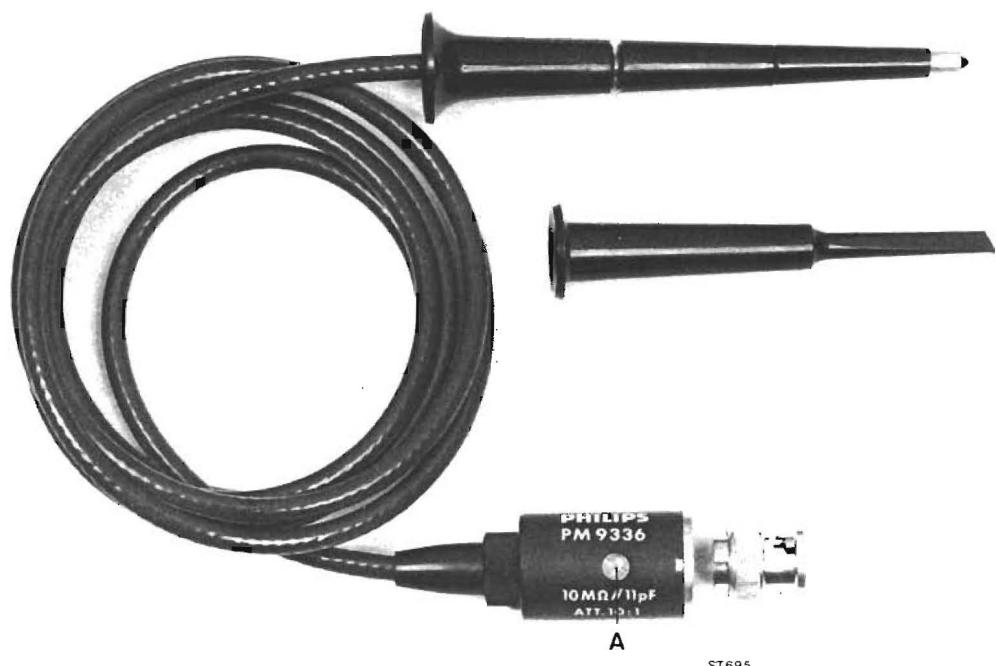

Fig. 1. Measuring probe PM 9336
- Adjust the probe by means of adjusting screw "A", fig. 1.